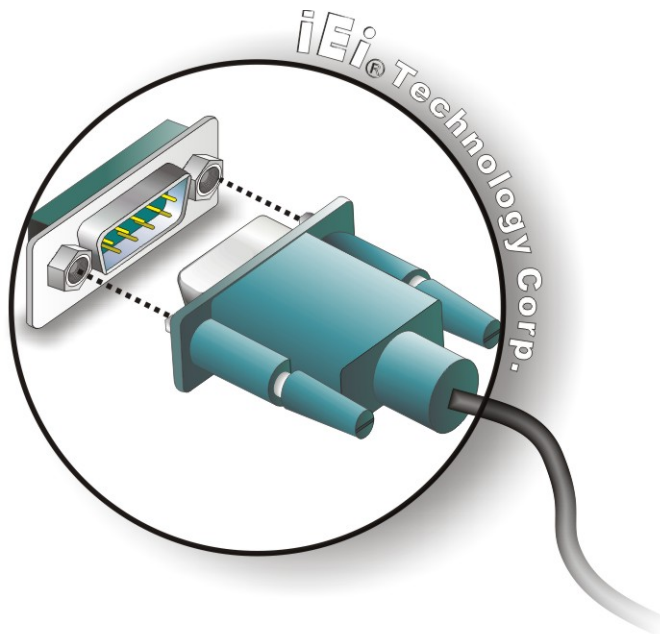

Figure 4-18: Serial Device Connector
Step 2: Insert the serial connector. Insert the DB-9 connector of a serial device into the DB-9 connector on the external peripheral interface. See Figure 4-18.